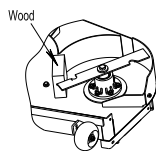

Fig. 11 Diagram of Installing the Blade
- d) To install the blade (if the blade needs to be removed), put a piece of wood in the front or rear baffle, and then tighten the bolt with a torque of 115-120 lb-ft (156-163N • m); Make sure the cup of the disc washer is pointing towards the blade; See Figure 11